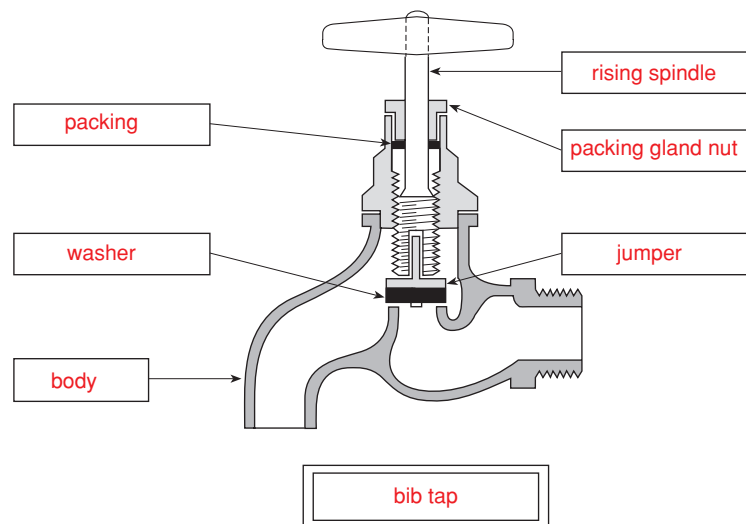

Figure 10
- (26) Shown in Figure 10 is a section through a screwdown valve. State the name given to the tap illustrated and in the spaces provided name the arrowed components. (Pages 75–77.)